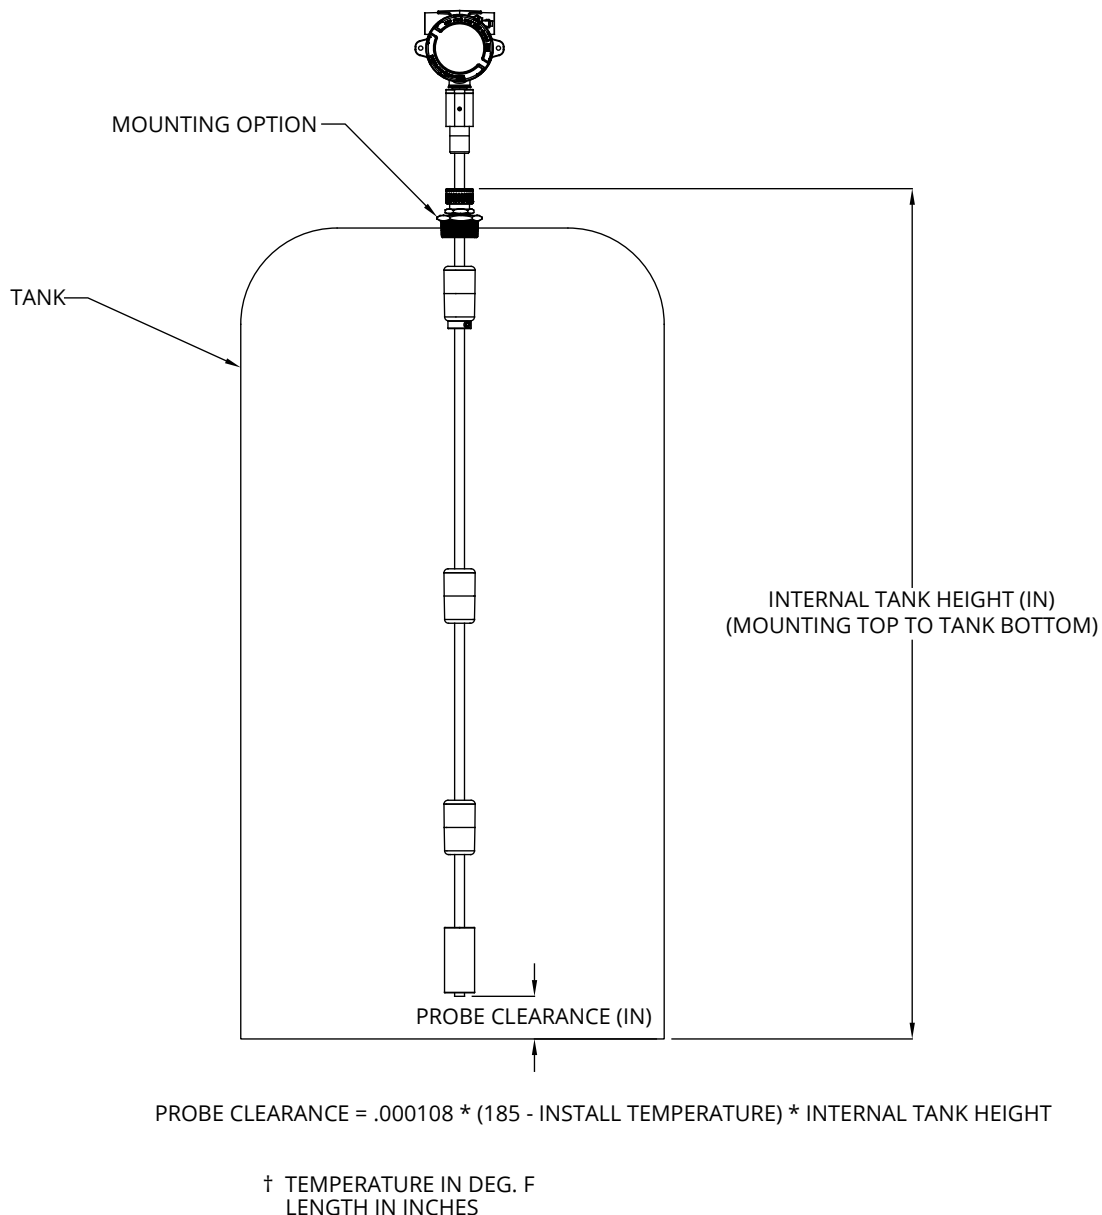

Figure 2.1
Prior to installing a PVDF-stem MPI-F, the interior, mid-column temperature of the tank must be measured to determine the amount clearance needed at the bottom of the probe for thermal expansion. See Figure 2.1
3. Use formula in Figure 2.1 to determine necessary clearance from bottom of probe to interior tank bottom.